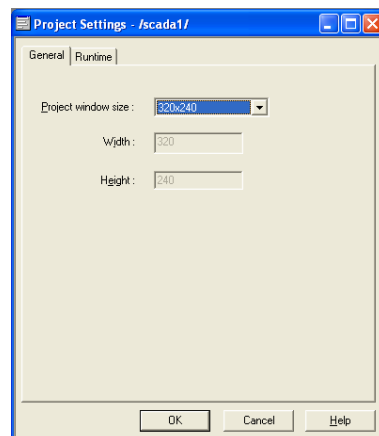

Fig. 30. Project Settings window
3. The empty project is created. Click the **Project Settings** – the window will appear (Fig.30). Set the **Project window size** parameter to 320x240. It is maximum resolution of the PanelView